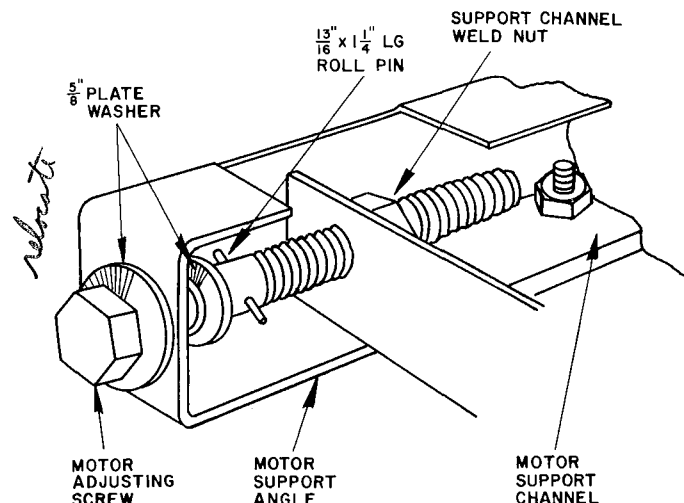

Fig. 6 — Assembled Fan Motor Adjusting Screw
4. Assemble and install motor adjusting screws as shown in Fig. 6. Drive roll pins into screws to